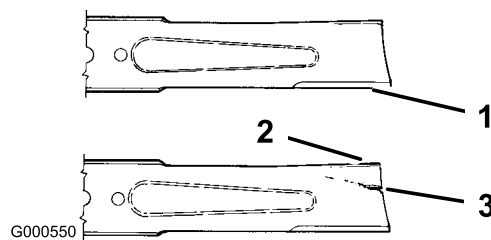

Figure 36
1. Inspect the cutting edges (Figure 36). If the edges are not sharp or have nicks, remove and sharpen the blades; refer to Sharpening the Blades.
2. Inspect the blades, especially the curved area (Figure 36). If you notice any damage, wear, or a slot forming in this area (item 3 in Figure 36), immediately install a new blade.